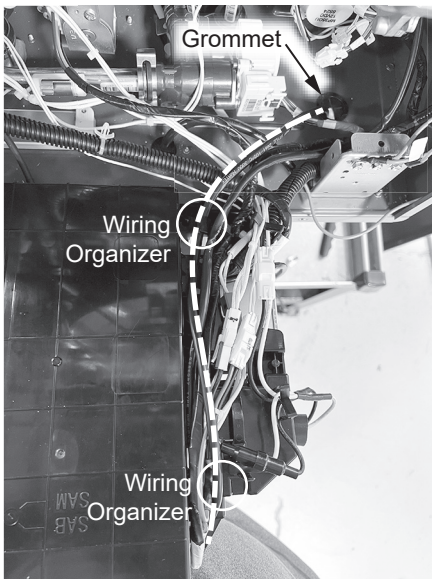

Figure 5 - Communication cable routing
- 10** Route the communication cable through the wiring organizers on the back of the control board panel. See Figure 5.